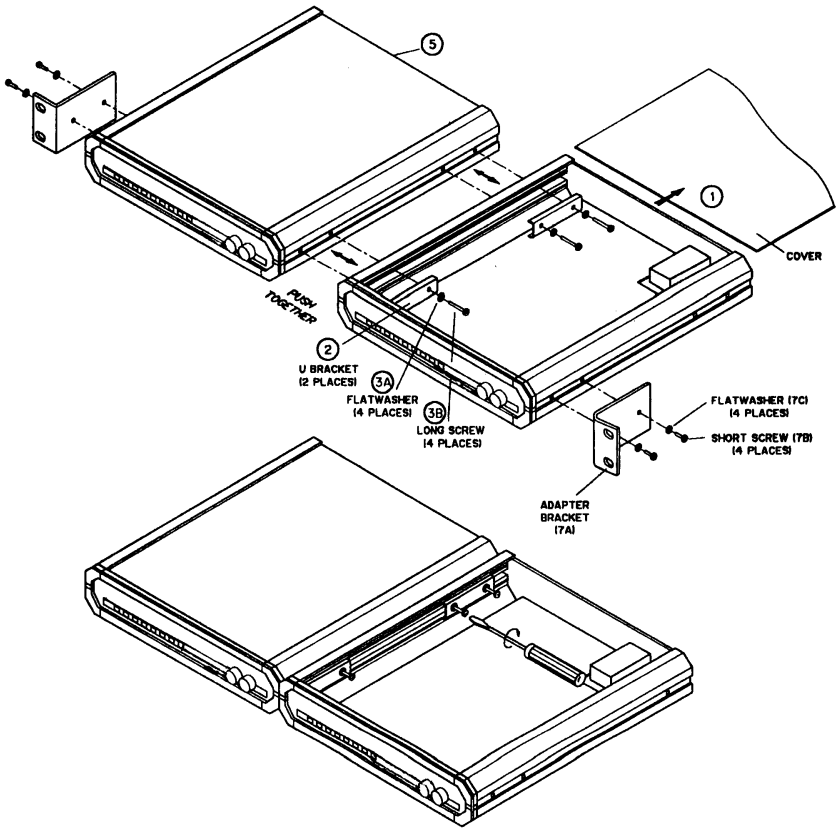

Figure 3-3. Installing two units in a 19-inch rack.
The adapter kit includes two adapter brackets and various hardware for attaching two Converters side by side in a 19-inch rack. Refer to Figure 3-3 when you perform the following procedure:
1. Remove the cover (item #1 in Figure 3-3) from the unit intended to be on the right-hand side.